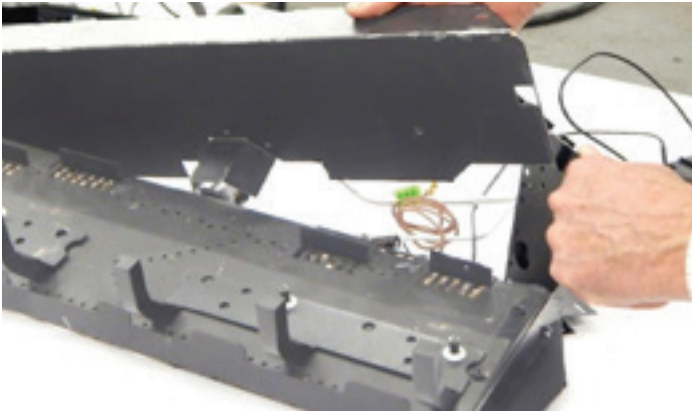

Figure 17
18. Remove the log shelf. **See Figure 17.**